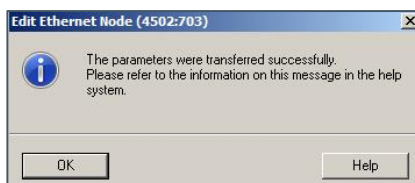

Figure 74: Confirm the automatically assigned IP address via DHCP server
- 3) Click **OK**, then **Close the Edit Ethernet Node** window (see: Figure 74: Confirm the automatically assigned IP address via DHCP server).